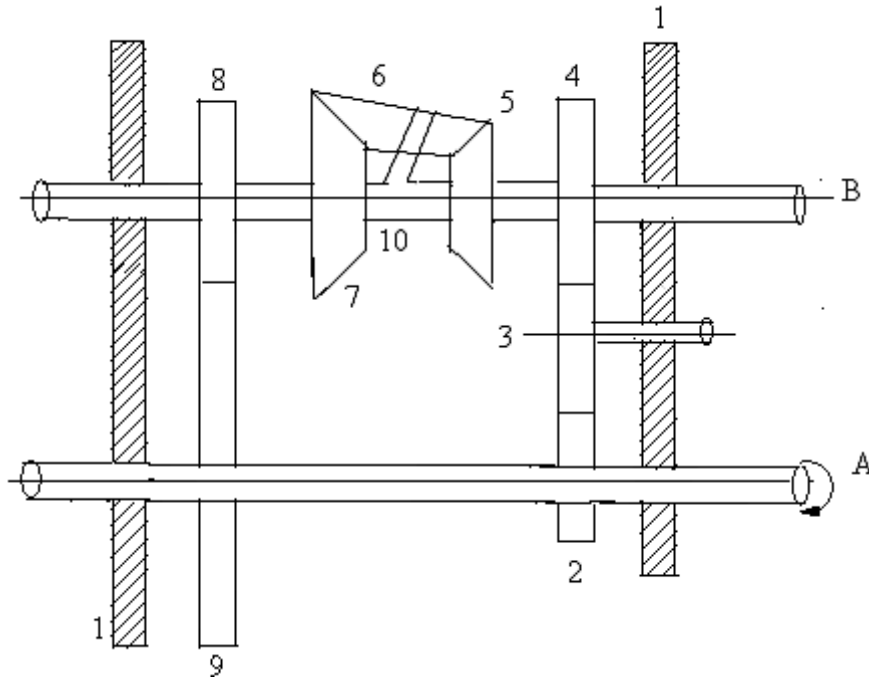

Figure 1:
1. (a) Find out the degrees of freedom of the gear system shown in the following Figure 1.